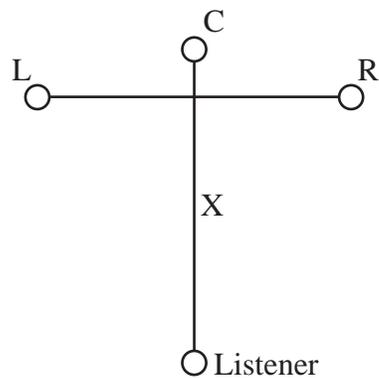

Figure 9.30: 5-channel setup: Step 3. Measure the distance between the listening position and the C loudspeaker to match the distances in Step 1.
Step 4. Find the location of the C speaker using the halfway mark you just made, the listener's location and the distance X . See Figure 9.30.